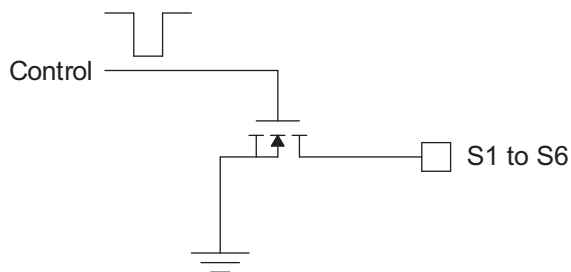
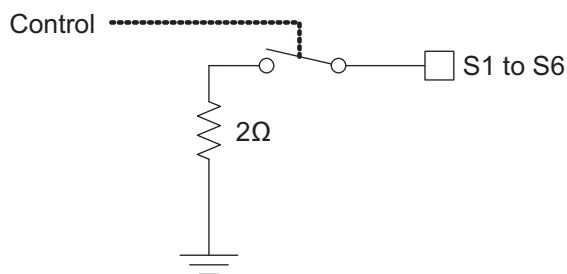

Figure 1: Switch Input Circuit.
Figure 2: Simplified Equivalent Model.
2. T_{ON} is the time after latch timeout to 10% of the output voltage. See Figure 1, Timing Diagram.
Each switch input may be represented by the following circuit (Figure 1) and simplified equivalent model (Figure 2).